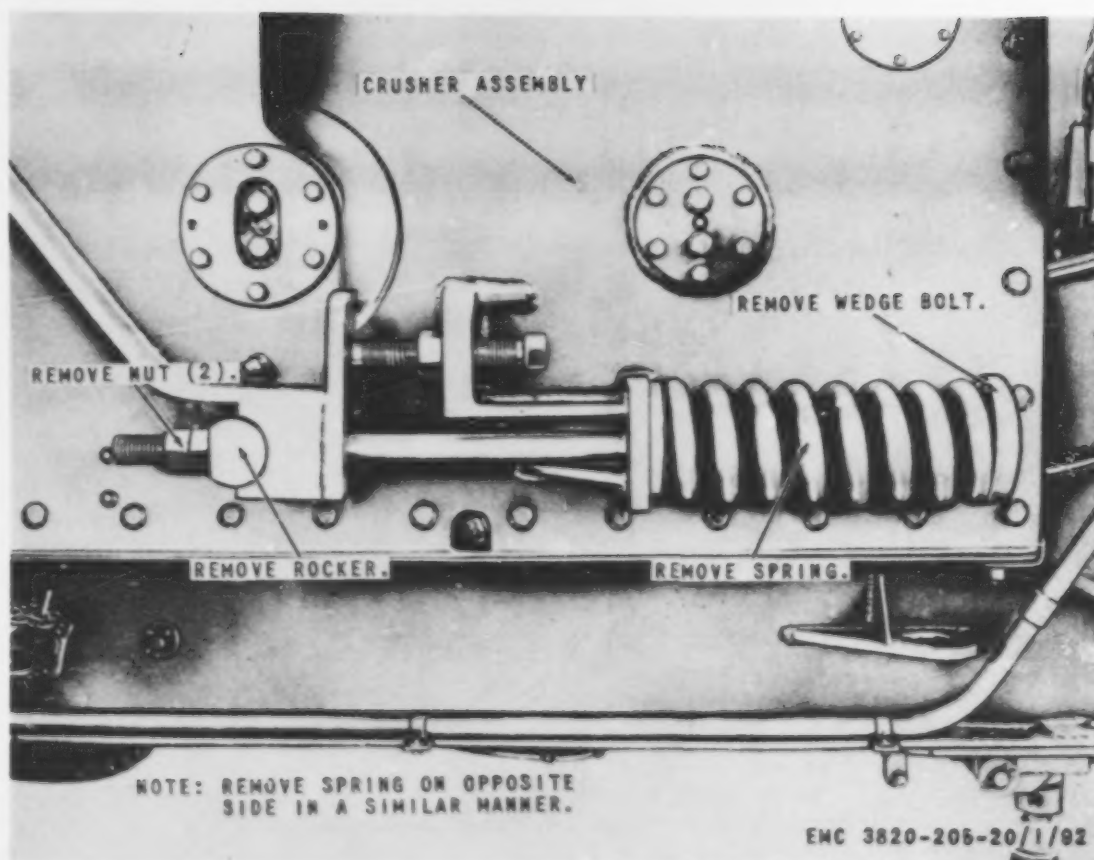

Figure 98. Crusher roller tension spring, removal and installation.
c. Installation. Install the crusher roller tension springs on the unit in reverse of the instructions on figure 98.